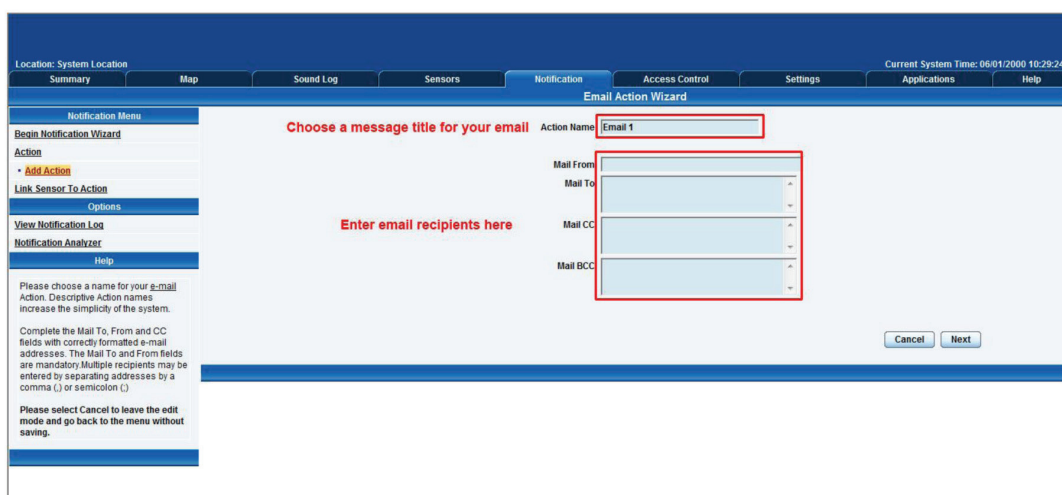

Figure 4-11. E-mail Action Wizard screen.
1. If you set up an e-mail notification, Figure 4-11 will appear. Click the "Action Name" field and choose a name for your e-mail. Click the "Mail From" and "Mail To" fields and enter the appropriate information, then click "Next."